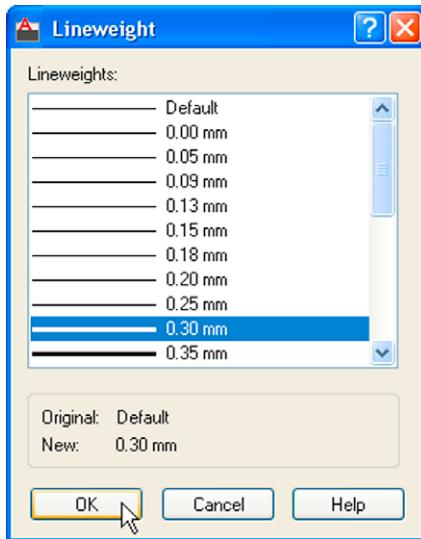

Fig. 4.19 The Lineweight dialog
7. Click on the any of the linewidths in the **Layer Properties Manager**. This brings up the **Lineweight** dialog (Fig. 4.19). Select the linewidth **0.3**. Repeat the same for all other layers. Then click the **Close** button of the **Layer Properties Manager**.